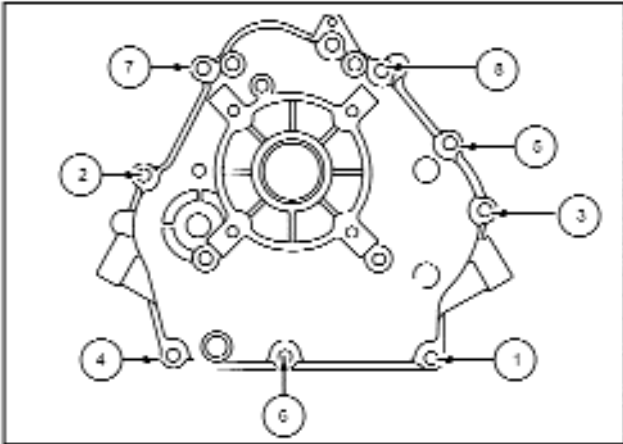
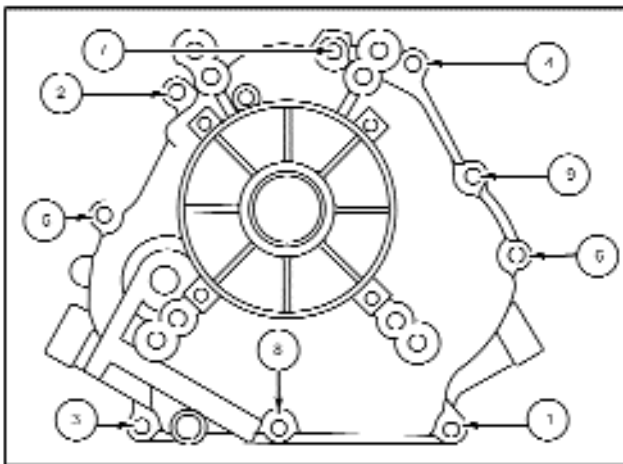

Figure 127 - 9 H.P. Engine, 175 in. lbs. (19.8 Nm)
Figure 128 - 13 H.P. Engine, 175 in lbs. (19.8 Nm)
2. Install crankcase cover. DO NOT FORCE. Gently, seat on to crankcase gasket, taping with mallet at four (4) corners, only if necessary.
3. Install screws and torque in sequence shown: Figure 127, 9 H.P. Engines and Figure 128 13 H.P. Engines